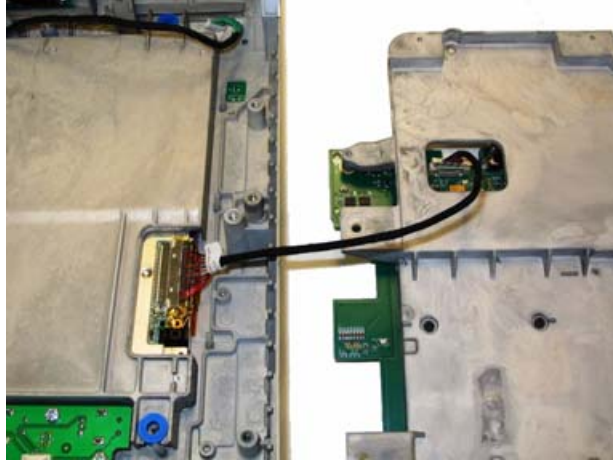

Figure 4.5 Display Wire Harness between LCD and Superplug Assembly
- 4 Disconnect the Display Wire Harness from the bottom of the Superplug Assembly as shown in Figure 4.5.